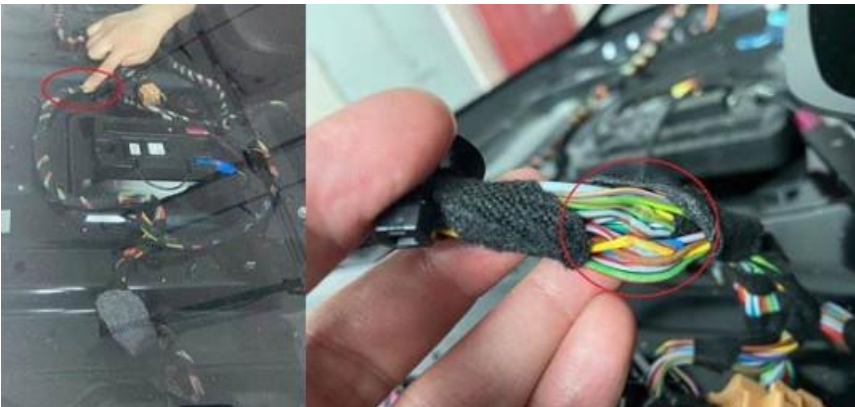

Figure 2
- Figure 2 shows examples of damaged wiring under parcel shelf